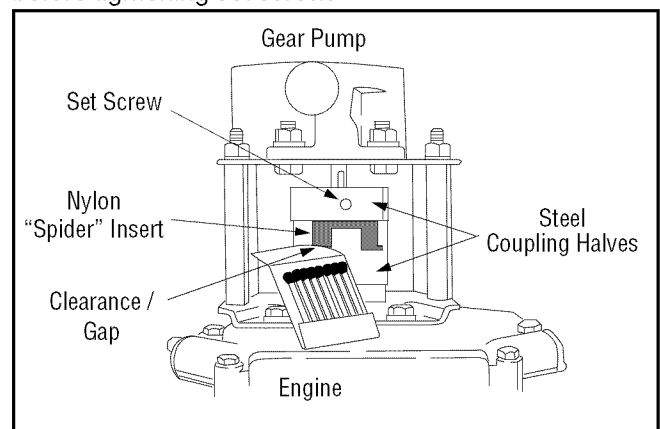

Figure 11
- Set .010” to .060” clearance/gap between the nylon “spider” and the engine coupling half by sliding a feeler gauge or matchbook cover between the nylon “spider” and the engine coupling half and moving pump coupling half as needed. Secure pump coupling half with set screw. See Figure 11.